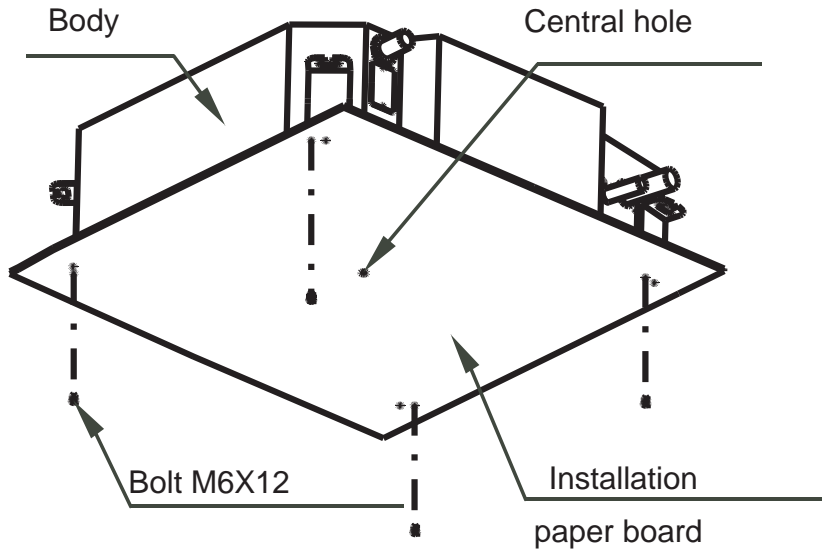

Fig.6
1. Use installation template (supplied with the panel) when deciding the suspension bolt position. Fig.6 and Fig. 7 show the dimensions relationship.